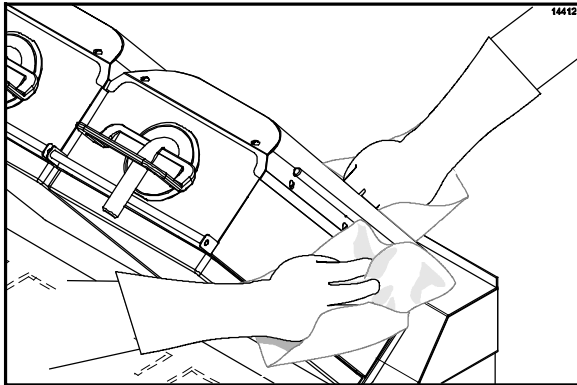

Figure 62
32. Rinse the front, side, and back of the platen surfaces with a clean, sanitizer-soaked grill cloth, starting from the right platen to the left platen. (See Figure 62.)